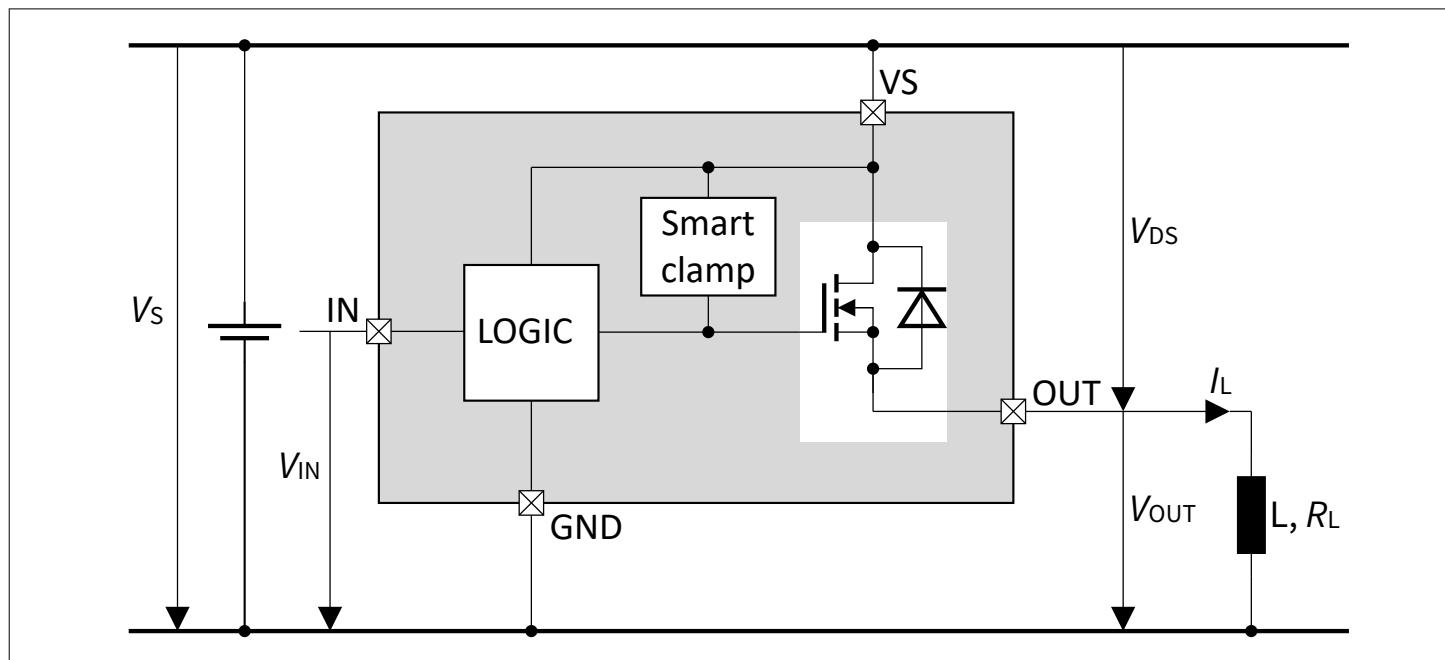
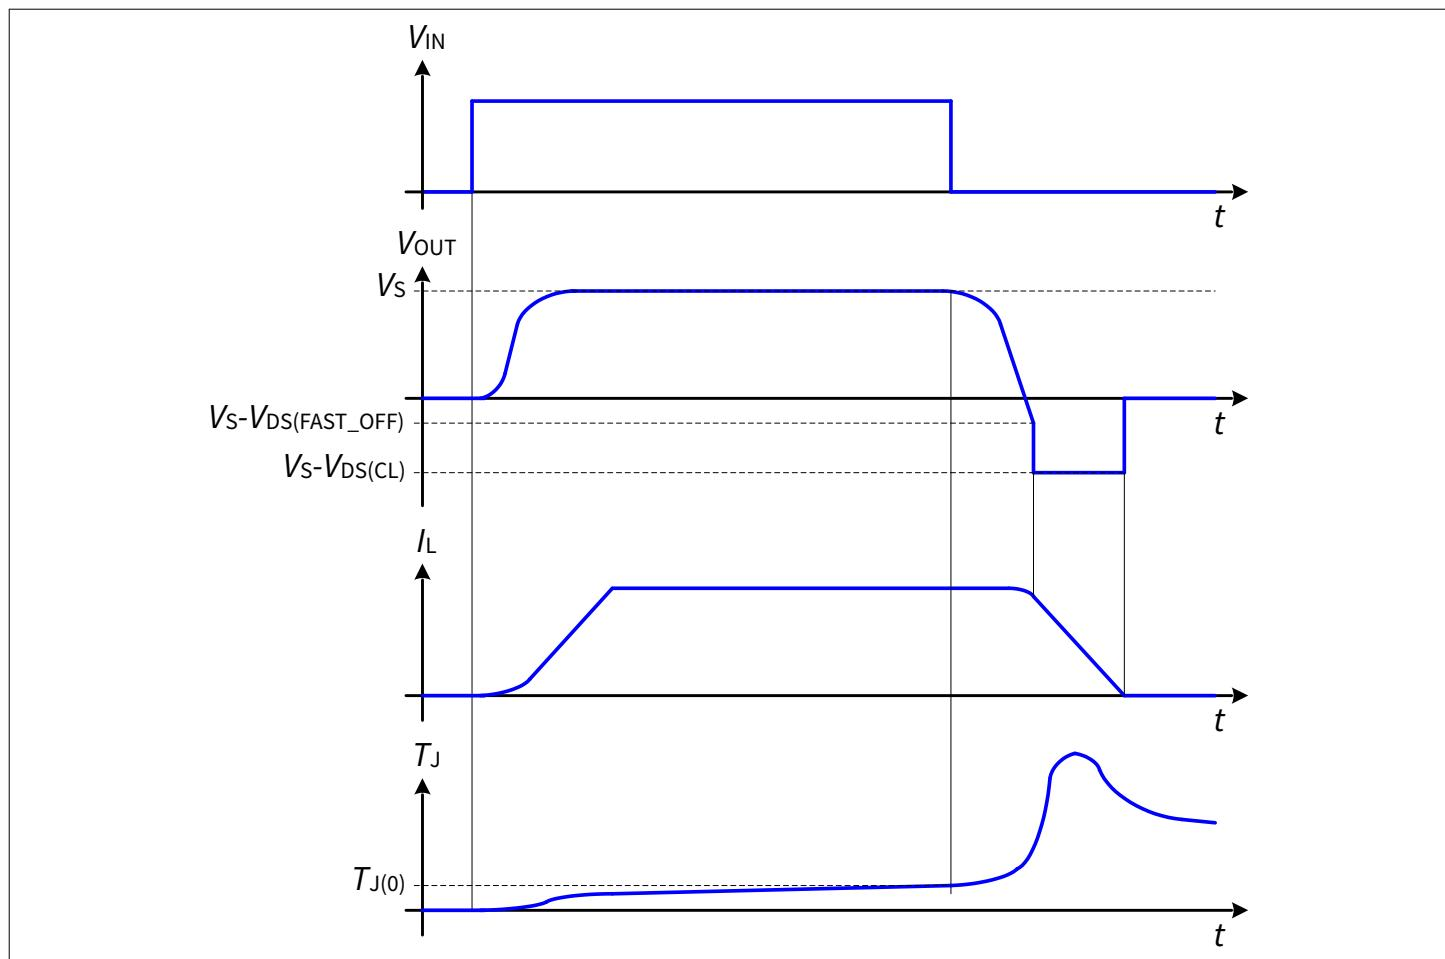

Figure 11 Output clamp
Figure 12 **Switching an inductance**
To prevent the destruction of the device due to high voltages, there is a smart clamping mechanism implemented that keeps negative output voltage to a certain level ($V_S - V_{DS(CL)}$). Please refer to Figure 11 and Figure 12 for details. Nevertheless, the maximum allowed load inductance remains limited.
The device features a fast switch off when driving an inductive load in order to increase the energy capability. The fast turn off is triggered when V_{DS} is higher than $V_{DS(FAST_OFF)}$. Please refer to Figure 12 for details.
- The device is turned off by applying $V_{IN(L)}$ at the IN pin. During the switch off operation the OUT pins' voltage in respect to VS pin drops below $V_{DS(FAST_OFF)}$. See Figure 12.